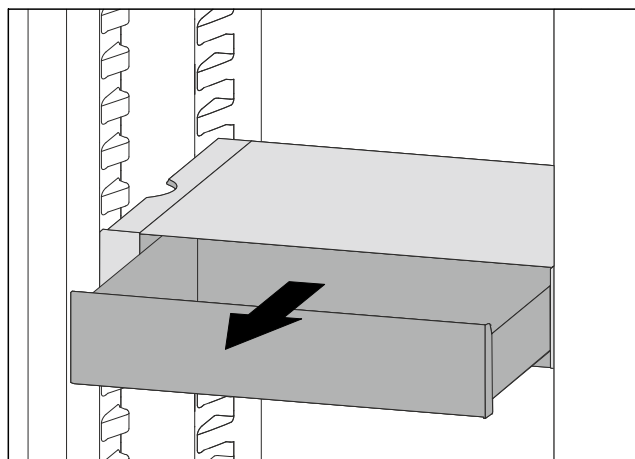

*Fig. 93*
- ▶ Move VarioSafe up or down in the refrigerator compartment until the desired height is reached. *Fig. 93 (2)*
- ▶ Pull VarioSafe forwards until the recesses in the side of the VarioSafe are at the level of the support rib in the refrigerator compartment. *Fig. 93 (1)*